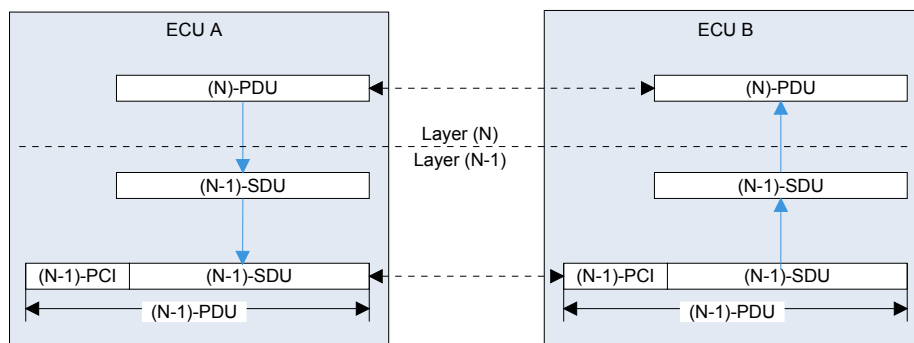

Figure 6.2. PDUs, SDUs, and PCIs
On the sending side, layer (N-1) adds a *protocol control information ((N-1)-PCI)* field to this (N-1)-SDU to form the (N-1)-PDU, which is then passed onward to the layer (N-2). This (N-1)-PCI, which contains (N-1)-layer protocol information like e.g., sender and receiver address and checksums, is removed by the instance of layer (N-1) at the receiver side before forwarding the (N-1)-SDU to layer (N). Figure 6.2, “PDUs, SDUs, and PCIs” illustrates this forming of (N-1)-PDUs out of (N-1)-SDUs and (N-1)-PCIs, as well as the relationship between (N)-PDUs and (N-1)-SDUs.